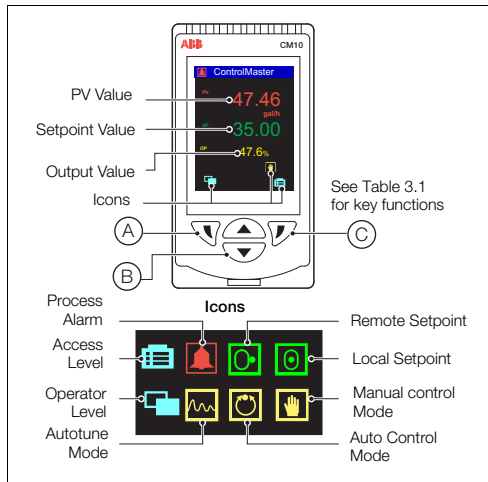

Fig. 3.1 ControlMaster CM10 Display and Icons
*When in Advanced Level (configuration) mode, press and hold the key to return to the standard Operator page – see Fig. 3.1, page 6